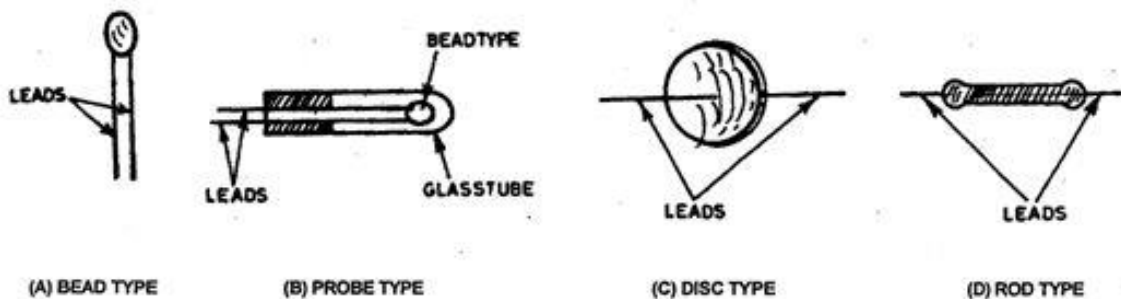

FIG. 3 VARIOUS SHAPES OF COMMERCIALY AVAILABLE THERMISTORS.
Physically, thermistors are made by compressing mixtures of compounds usually oxides of manganese, cobalt, calcium, uranium, iron, zinc, titanium, aluminium and magnesium. This starts out in a powder form, and the material can be formed into rods, beads or discs, by a process called sintering. This is merely a process of forming a blob of material under high pressure and temperature. Wire leads can be attached to the thermistor, and sometimes it is enclosed in an envelope of some kind, glass for example. Fig.3 shows various shapes in which thermistors are commercially available. The thermistor provided with this training board is a bead type.
4. From Fig. 3. Select the right thermistor for measuring temperature of a chemical liquid?